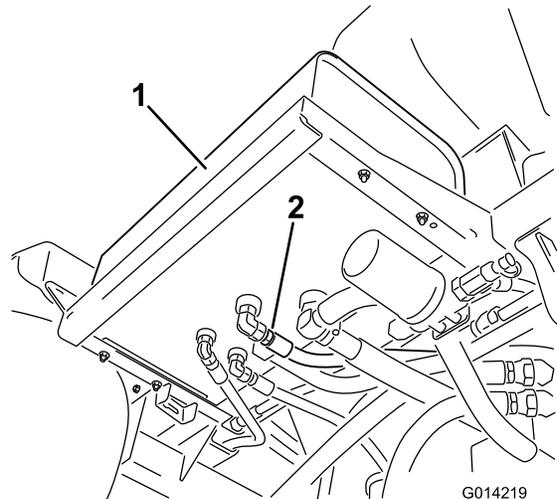

Figure 108
2. Clean the area around a hydraulic-hose fitting on the bottom of the hydraulic-fluid tank (Figure 108).
4. Remove the hose fitting from the tank, allowing the fluid to drain into the pan (Figure 108).